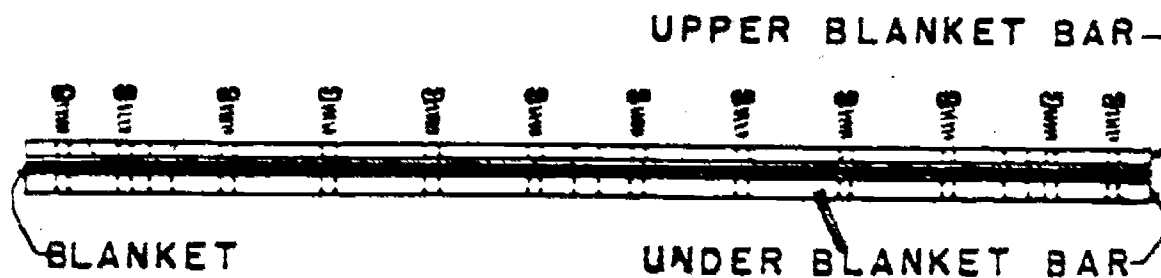

FIGURE 5
(1) New blanket. A new blanket must be thoroughly scrubbed with pumice powder and cleaning solvent to remove the slight glaze caused by oxidation of the rubber.
(2) Punch blanket. If the blanket has not been punched, place a blanket bar across one end of the blanket at right angles to the direction of the arrow on the cloth Demonstrate side of the blanket. The outer edge and the ends of the blanket bar must be even with the upper and sides of the blanket. Insert a pencil into each hole in the blanket bar and make a circular mark on the rubber blanket. The pencil marks will then correspond exactly with the holes in the blanket bar. The same procedure is used on the other end of the blanket making certain that the second bar is parallel to the first. The blanket bars can then be removed and all of the indicated holes punched in or cut out. The holes must be cut cleanly, because irregular fragments of the rubber may cause the blanket bar bolts to bind. (See figure 5)